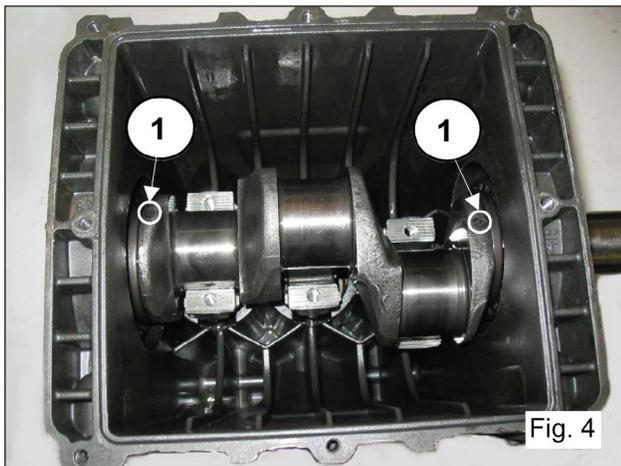

Fig. 4
- Push the plunger guides and connecting rods forward to facilitate lateral extraction of the pump shaft. Two marks are visible on the crankshaft (fig. 4 and 4a); they must be turned towards the operator in order to facilitate extraction.